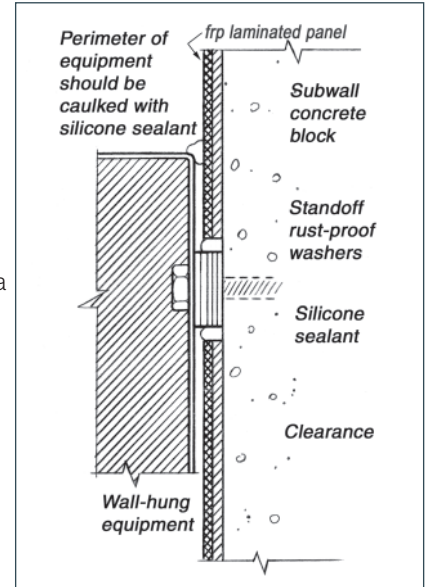

FIGURE 25
6. Install wall-hung equipment and signs with standoffs (washers) between the substrate wall and equipment, making certain that the standoffs are thick enough to expand and contract. Drill panels 1/4" diameter larger than the standoffs (Figure 25).
7. Caulk and seal all edges to keep water from getting behind the panels (Figure 25).